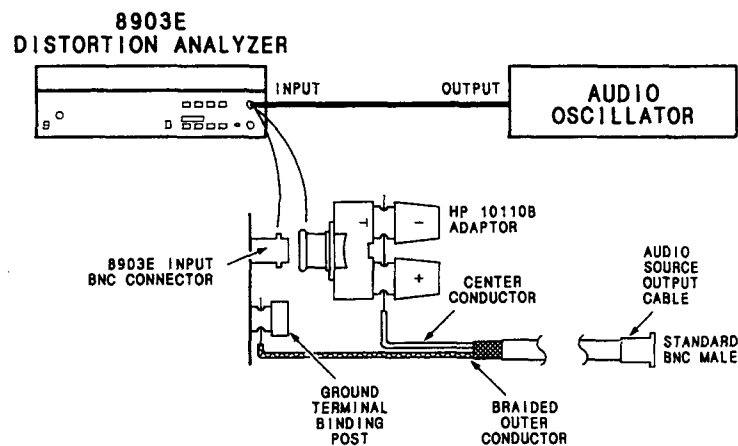

Figure 5-4. Common-Mode Rejection Adjustment Test Setup
3. Connect the equipment as shown in Figure 5-4. Note how the cable center conductor and shield are connected to the Distortion Analyzer INPUT connector and ground terminal.
4. Adjust A2R43 (CM) for the minimum level on the right display, but less than 0.2 mV.